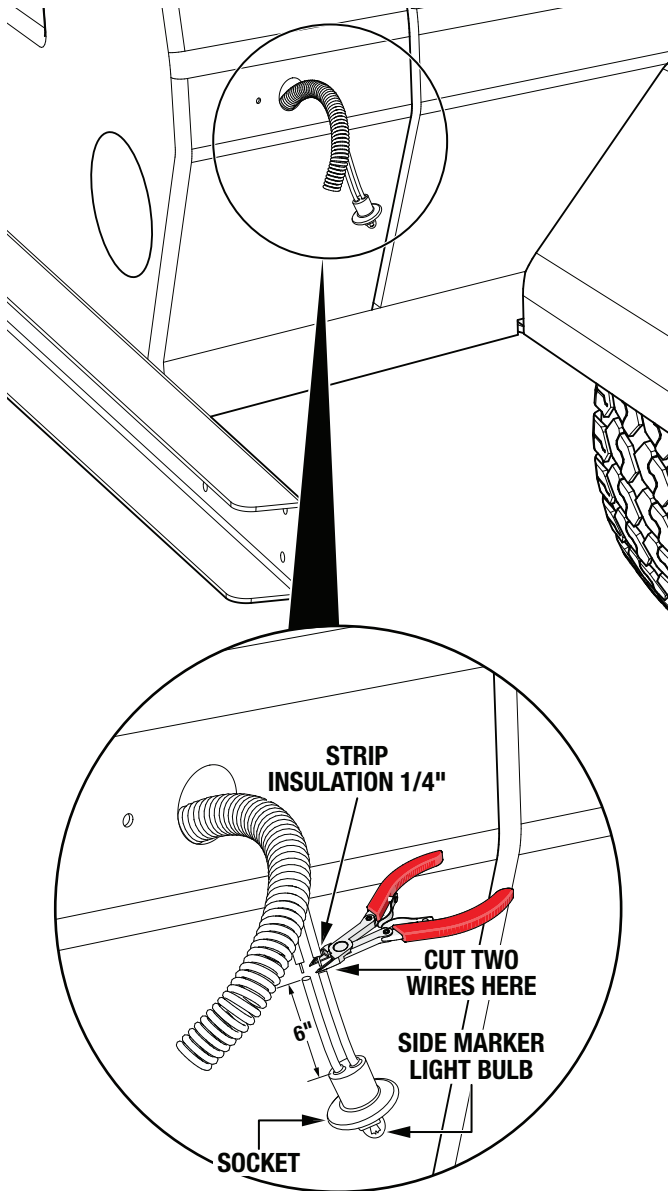

Figure 9. Side Marker Light Disconnection
3. Cut the two wires extending from the side marker light bulb socket as shown in Figure 9. Set the light bulb socket assembly aside for later.
4. Strip the insulation back 1/4-inch (6 mm) from the end of the remaining wires to expose the conductors. See Figure 9.